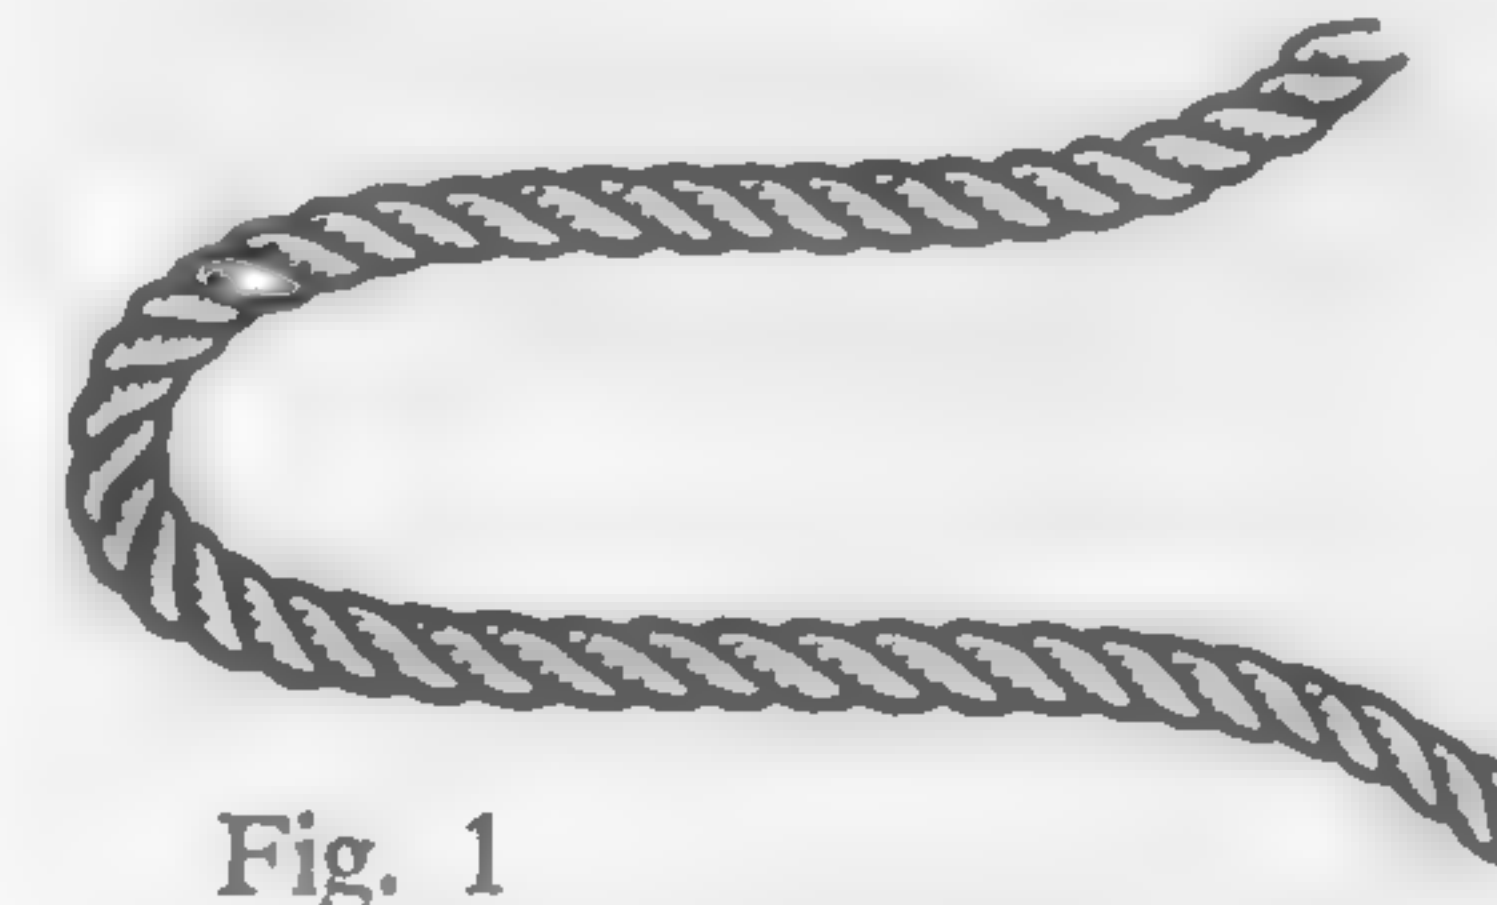

Fig. 1
**"Bight"** — this is formed by simply bending the rope and keeping the sides parallel (Fig. 1).